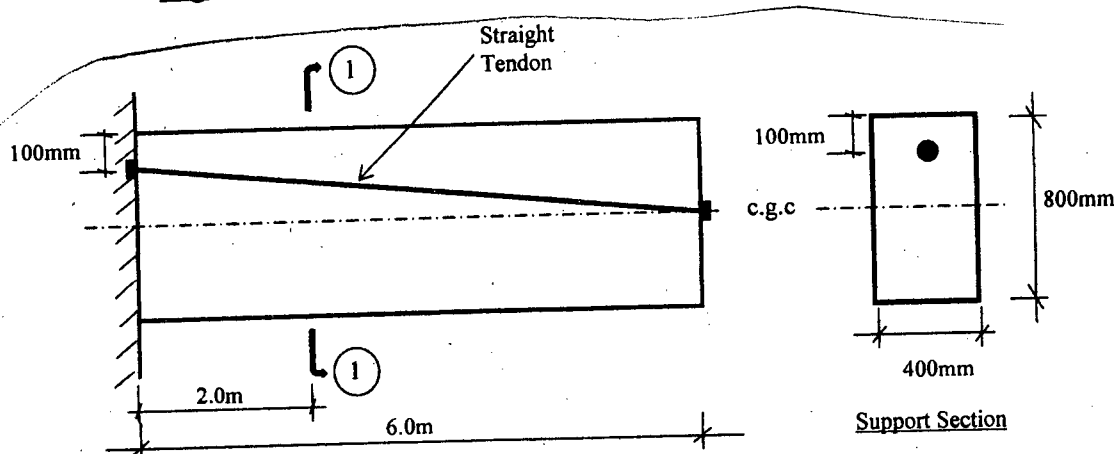

Fig. 2
- (c) Discuss different modes of failure of a high-rise shear wall. (6)
4. (a) Describe briefly the loss of prestress in pretensioned member from each individual source. (12)
(b) A pretensioned concrete member shown in Fig. 2 is prestressed with  $780 \text{ mm}^2$  of steel wires which are anchored at both ends with a stress of  $1100 \text{ MPa}$ . Compute the loss of prestress at section 1-1 due to elastic shortening of concrete. Use  $n = 7$  and solve the problem using both gross and transformed area of concrete sections. Also, compare the results. (17)
- (c) Compute the shape factor of the beam section shown in Fig. 2. (15)
2. (a) Briefly discuss, with neat sketches, how the structural properties of steel are affected by temperature. (8)